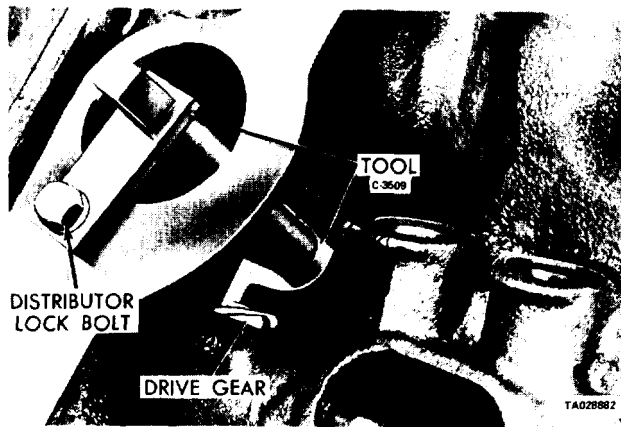

Figure 3-9. Camshaft Holding Tool C-3509.
- (1) Remove the timing chain cover (*a*, above).
(2) Remove the cup washer that attaches the sprocket to the camshaft. Remove the fuel pump eccentric. Remove the timing chain and the crankshaft and camshaft sprockets as an assembly.
(3) To install a new chain, remove the distributor and oil pump distributor drive gear. Use tool C-3509 to avoid contact between the camshaft and the welch plug in the rear of the engine block.
(4) Locate the tool against the rear side of the cam gear and attach the tool with the distributor retainer plate bolt, as shown in figure 3-9. (The figure shows accessories removed, for clarity).
(5) Place the camshaft and crankshaft sprockets on the bench with the timing marks on the centerline through both bores.
- (6) Place the timing chain around both sprockets.